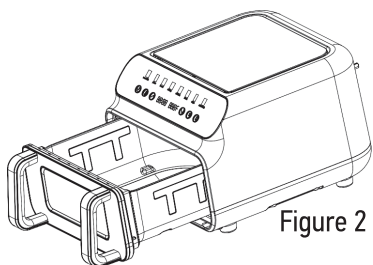

Figure 2
- 02.** Before use, please push the frying bucket into the frying pan until you hear a "thump" sound (as shown in Figure 2).